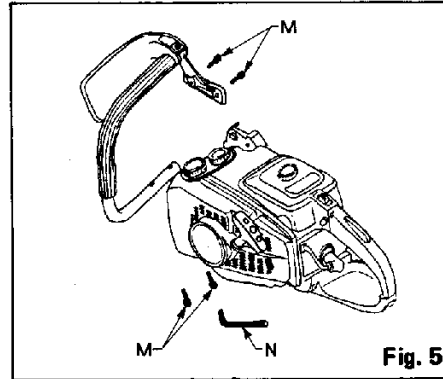

Fig. 5
5. Place pre-assembled front handle to the mounts. Tighten four SCREWS (M) with finger and confirm all four screw are sitting in the internal threads of casting. Tighten four SCREWS (M) evenly with WRENCH (N). See Fig. 5.